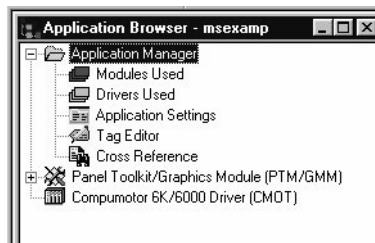

Figure 2-25: Interact Application Browser
Interact will open the MotionPanel application, and the Application browser will appear, as shown in Figure 2-25.
5. Select the Compumotor 6K/6000 Driver (CMOT), as shown in Figure 2-25.